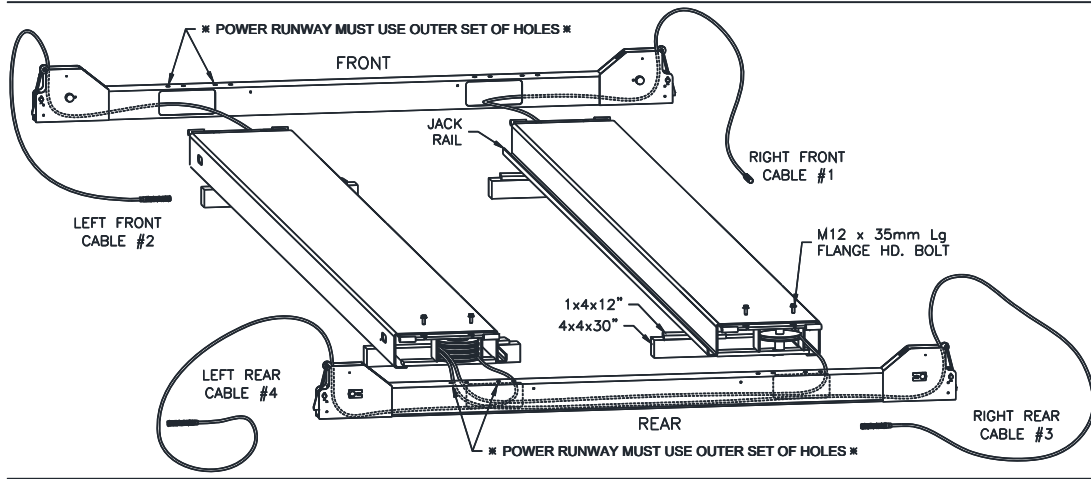

Fig 4 – Runway Layout
- 3) Position runways on blocking (see Fig 4) per layout lines established in step 1. Use four 30" long 4x4's spanning the width of the runway and
four 12" long 1x4's to shim up the jack-rail side of the runway. Cable #1, #3, & #4 should be extending out from the rear of the power runway and cable #2 from the front of the power runway, Fig 4.
- 4) Position the front and rear cross beams, Fig 4. (Both cross beams are identical.)
- 5) Reach in through either of the access holes in the cross beam tube and pull out the roll of 4mm dia. plastic air line connected to the air cylinder at the end of the cross beam. Repeat for opposite access hole and position the cross beam near the end of the runways as in Fig 4.
- 13) Attach both cross beams to the runways (**Fig. 4**) with M12 x 35mm lg. flange head bolts (two at each end of each runway) being careful not to pinch the air line. Leave the airlines hanging out the bottom of the crossbeam access holes at this time, they will be fed in through the runway after the lift is raised. **The outermost power runway slots should be in line with the outermost holes in the top of the cross beam, see Fig. 4.** The idler runway can be installed using the outer or inner sets of cross beam holes, see "Width Between Runways" dimension in **Fig. 1**. Do not torque bolts yet.